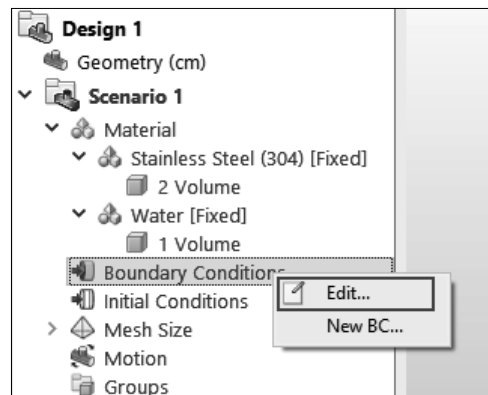

Figure-23. Edit button from Boundary Conditions option
- Right-click on the **Boundary Conditions** option from **Design Study Bar**, the right-click shortcut menu will be displayed; refer to Figure-23.